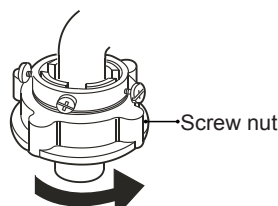

Figure 5
5. Twist the fastening nut, See to Figure 5. After installation, the threading is less than 2mm above the upper surface of the nut. See to Figure 6.